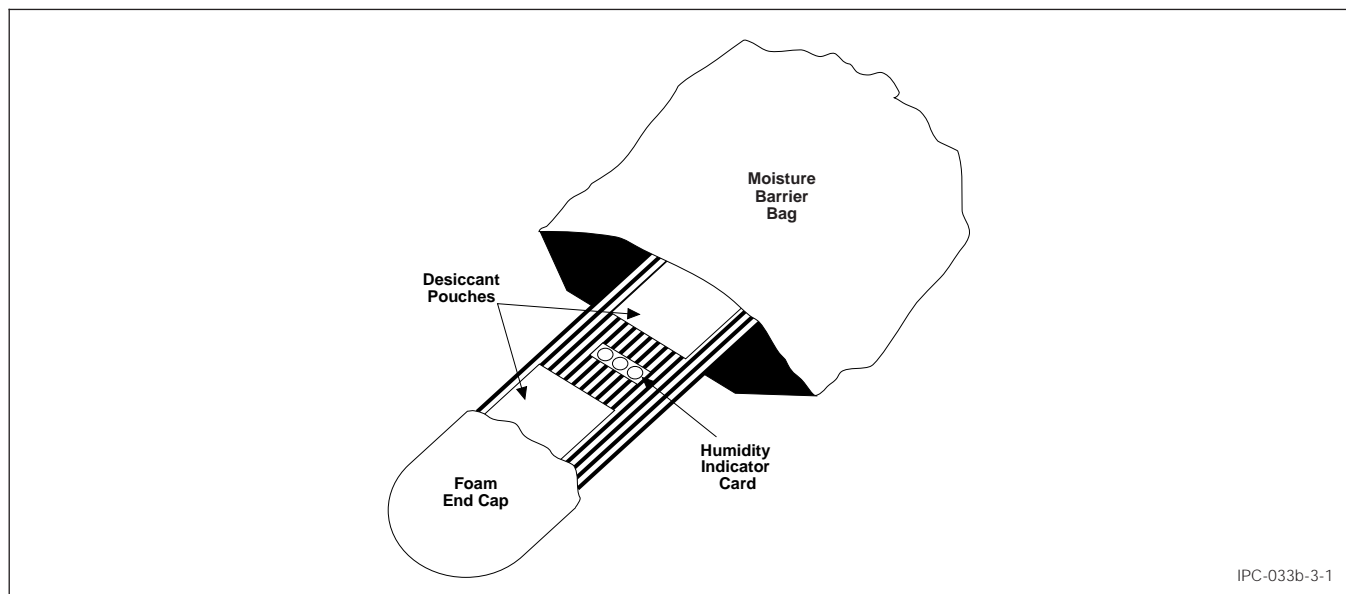

Figure 3-1 Typical Dry Pack Configuration for Moisture-Sensitive SMD Packages in Shipping Tubes
**3.3.1 Description** Dry pack consists of desiccant material and a Humidity Indicator Card (HIC) sealed with the SMD packages inside a Moisture Barrier Bag (MBB). A representative dry pack configuration is shown in Figure 3-1.